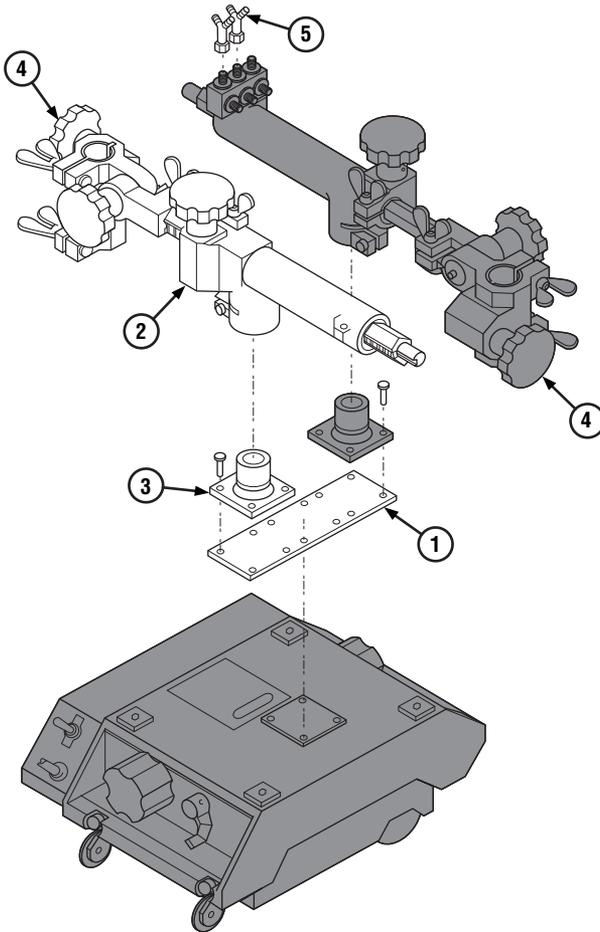

Figure 3: Setup with Dual Torch Mount
Set up the optional dual torch mount assembly, Part No. 0252-0136, as shown in Figure 3. Install the dual torch mount plate (1) on the machine housing in place of the single torch mount post supplied with the standard machine package. Attach the removed single torch mount post, along with the second one (supplied with the dual torch mount assembly), at the ends of the dual torch mount plate.